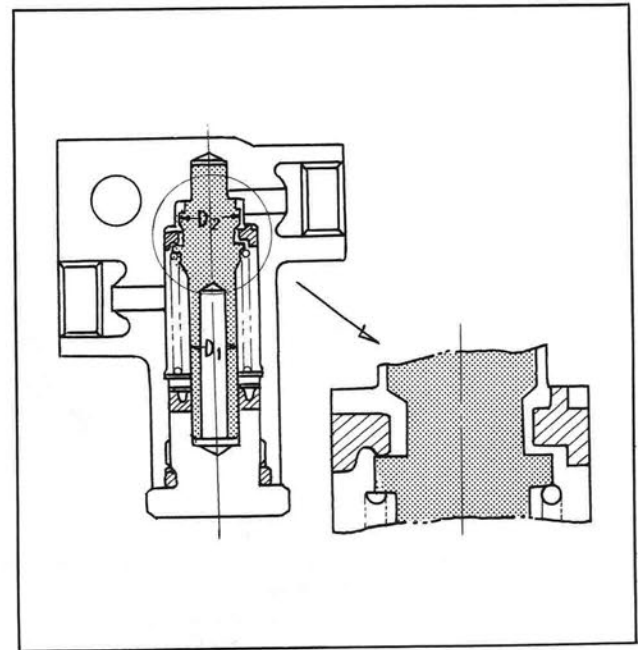

Fig. BR-10 Plunger and seal operation when pressure is applied (under split point)
When pressure further drops down to the split point, the plunger is pushed up by spring force, the condition recovers to the original condition, and with the balance of equation (1) being maintained, oil pressure drops. (refer to Figure BR-10)